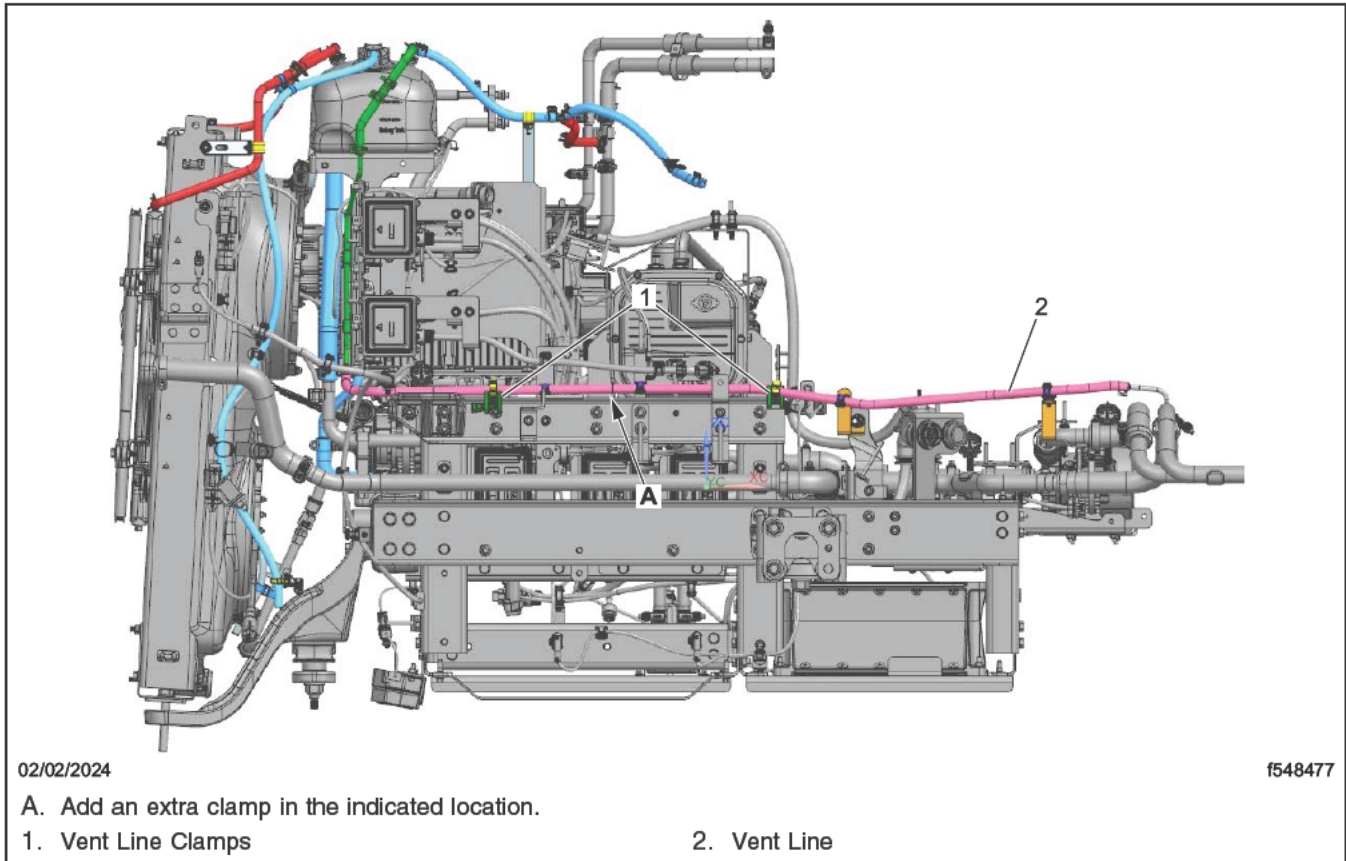
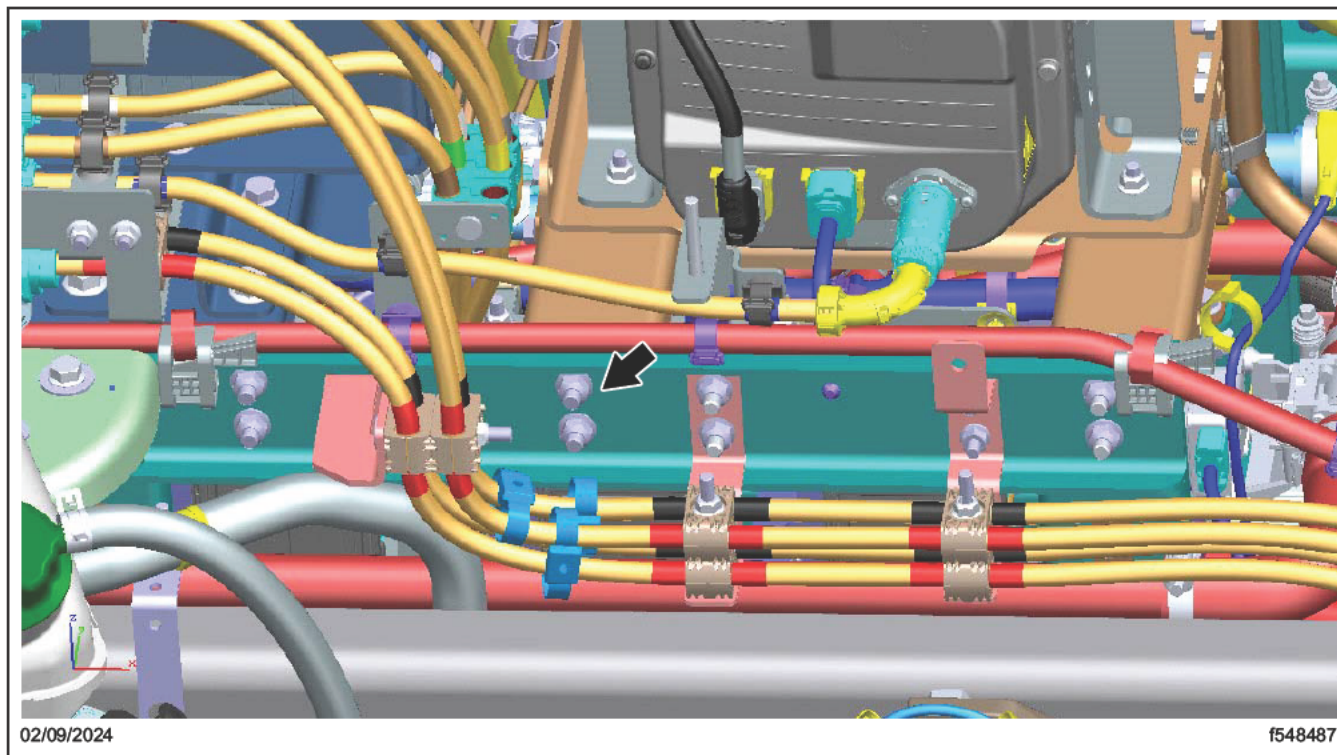

Fig. 14, Vent Line Routing
Fig. 15, Location of Frame Clamp
37. Install and route the vent line. See Fig. 14.
38. Install the frame clamps, and secure the vent line with a cable tie. See Fig. 14 and Fig. 15.